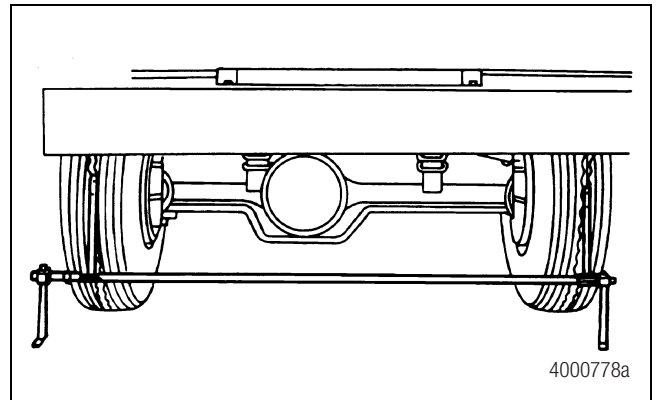

Figure 6.29
7. Place the trammel bar at the front of the tires. Adjust the pointer to line up with the scribe lines. Figure 6.29.